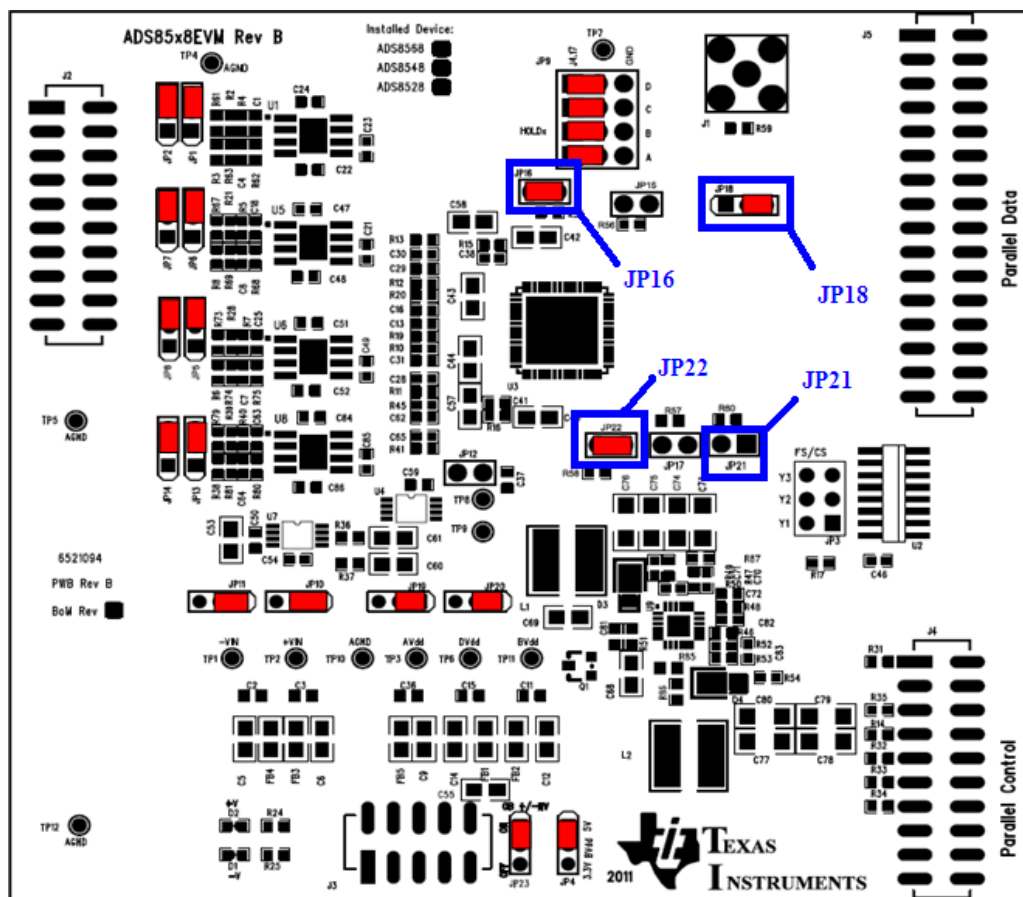

Figure 6. Jumpers JP16, JP18, JP21, and JP22
- When the device is set up in hardware mode (JP16 closed), the internal fixed 2.5-V reference is enabled through the REFEN pin (JP21 open). Refer to Figure 6 for the jumper location. The channel range is adjusted in hardware mode by the JP18 settings: